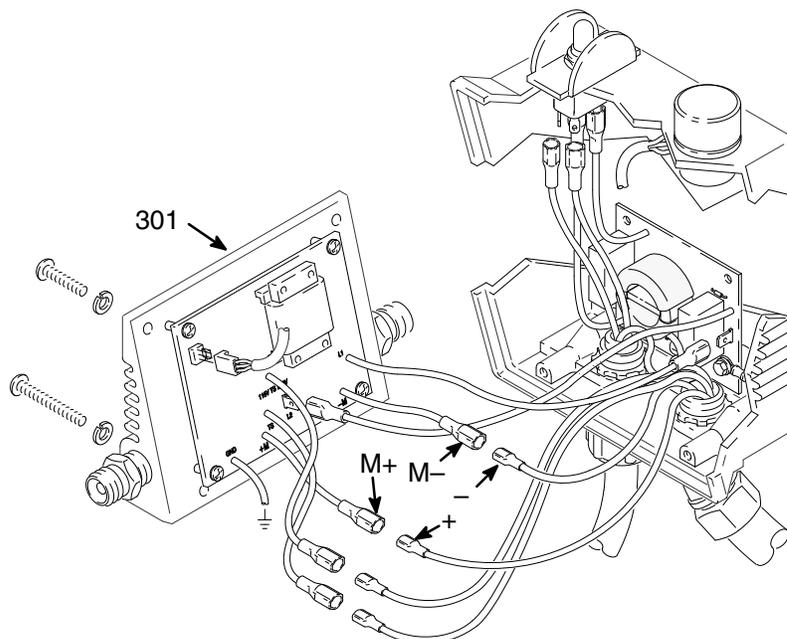

Fig. 11
Remove the pressure control/cover (301). Disconnect the – and + leads from the motor to the pressure control/cover terminals M–, and M+. See Fig. 11.